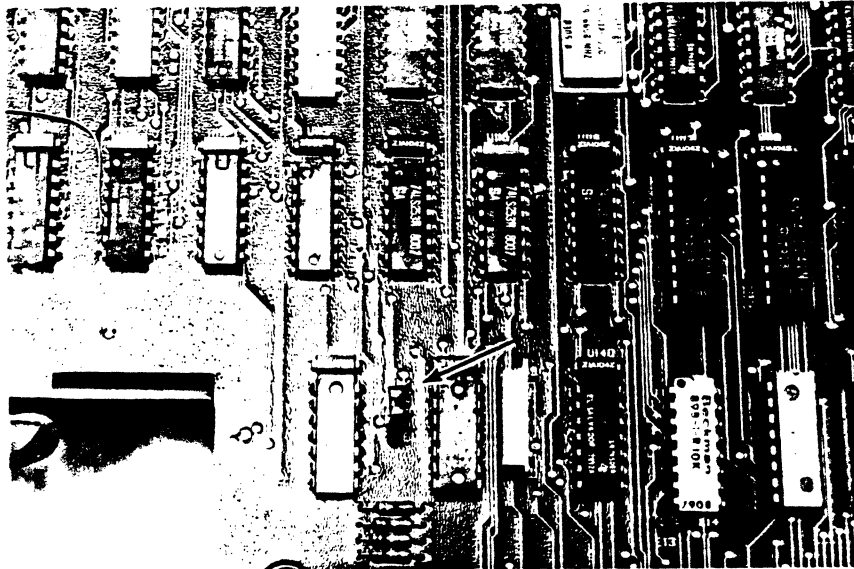

Figure 5-1. Clock Jumper Location
Changeover from internal to external clock is accomplished by moving a single jumper on the Z-SCAN printed circuit board. The jumper, designated E10, E11, E12, is located towards the front left of the board, as shown in Figure 5-1. The jumper is the only one on the board the user should alter, and it selects clock source as listed in Table 5-1.
5. Locate the clock source jumper (see Figure 5-1) and move to the required position (see Table 5-1).